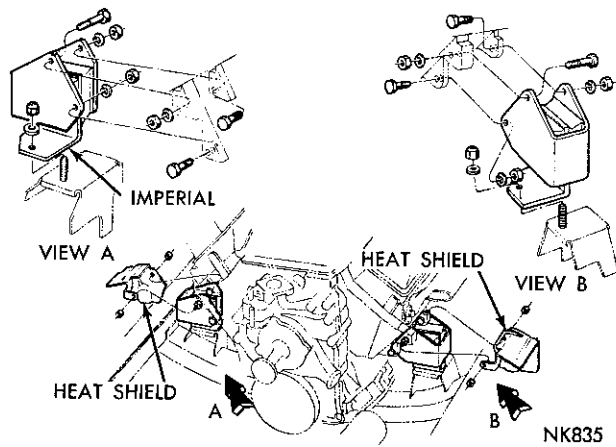

Fig. 50—Front Engine Mounts AY-1
- (1) Install the mounts on the engine and tighten the nuts to 45 foot-pounds torque, as shown in Figures 50 and 51.
- (2) Slide the heat shields over the engine mount bolts and install the second nuts. Tighten the nuts to 45 foot-pounds torque.
- (3) Lower the engine and install the washers and pre-torque nuts on the frame bracket studs. Tighten the nuts to 75 foot-pounds torque.
- (4) Connect the throttle to transmission and carburetor linkage.